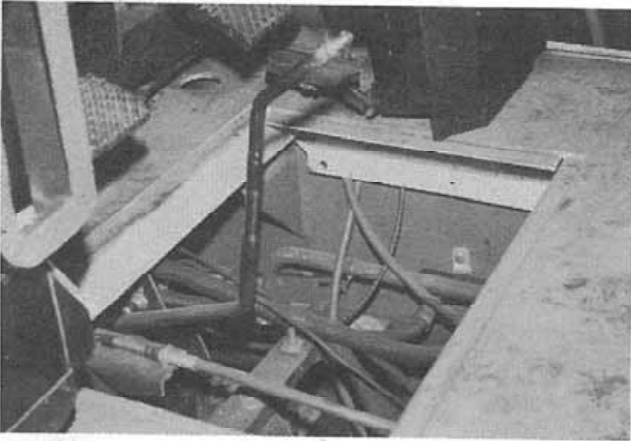

Figure 2:
4. Remove the left instrument panel skirt, unfasten the right instrument panel skirt, then carefully remove the floor mat (Fig. 2), and floorboard.